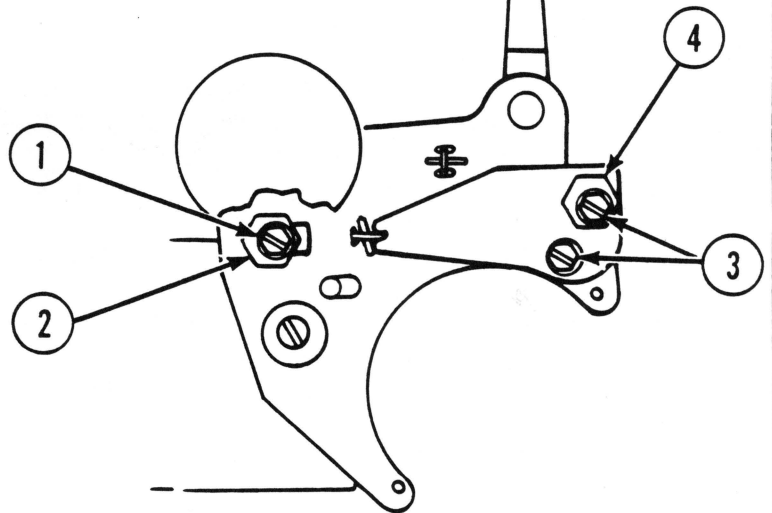

FIGURE 4
7. Loosen the lock screw (Figure 4, #1) just enough to allow rotation of the 5/8 inch eccentric nut (Figure 4, #2). Rotate the eccentric (with 5/8 inch wrench or duck-bill pliers) until the surface of the platen just touches the combo gauge slide. Then tighten the lock screw.